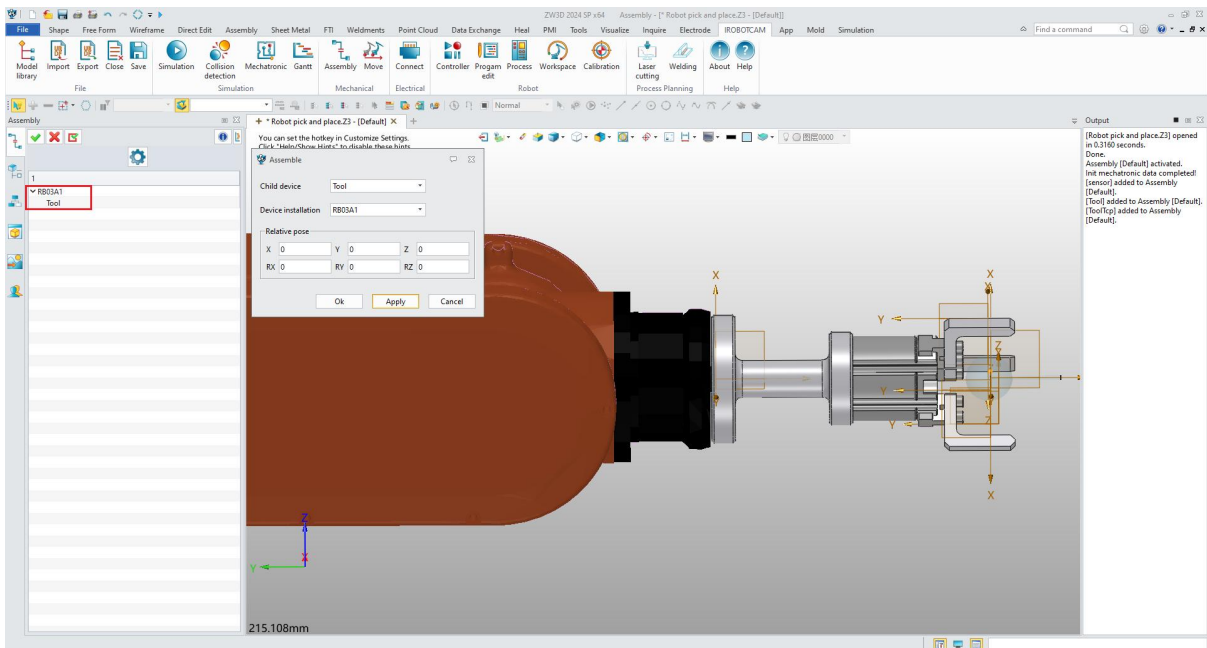

Figure 10-8: Assembly relationships
- Click “OK” button the confirm. (Figure 10-8)